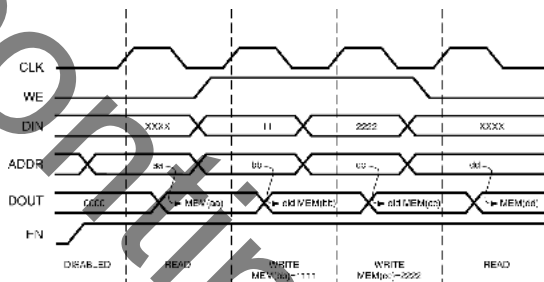

Figure 5: Read First Mode Waveform
- **Register Inputs:** Select to register ports DIN, ADDR, and WE before accessing block memory. See Figure 5.
- **Additional Output Pipe Stages:** Select "1" to enable an additional register on the output of the memory; select "0" to disable an additional register on the output of the memory. See Figure 5.
In Read-First mode, data previously stored at the write address appears on the DOUT port. Data input is stored in memory and the prior contents of that location is driven on the output, during the same clock cycle (shown in Figure 5).